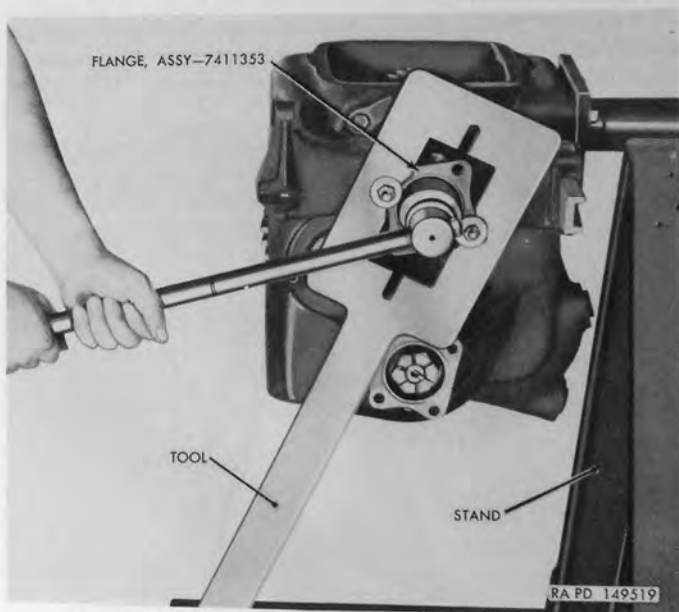

Figure 51. Use of companion flange holding tool 41-T-3215-910.
b. Remove cotter pins used to lock retaining nuts at each of the four flanges to which propeller shafts are attached. Attach tool 41-T-3215-910 to companion flange on rear axle output gear as shown in figure 51. Remove flange nuts from input shaft and output shafts.